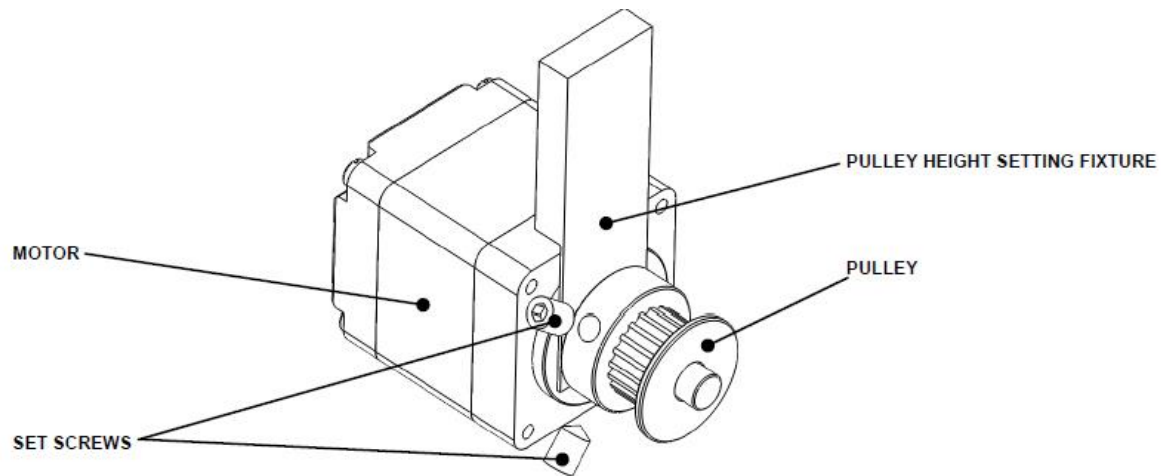

Figure I-11: Attaching the Pulley to the Motor
1. Attach a 20 Tooth Drive Pulley to a new Incubator Motor using the Incubator Pulley Height Setting Fixture (Figure I-11) and two M4x6 Set Screws and Loctite 222. After you have set the pulley with Loctite, remove the height setting fixture.